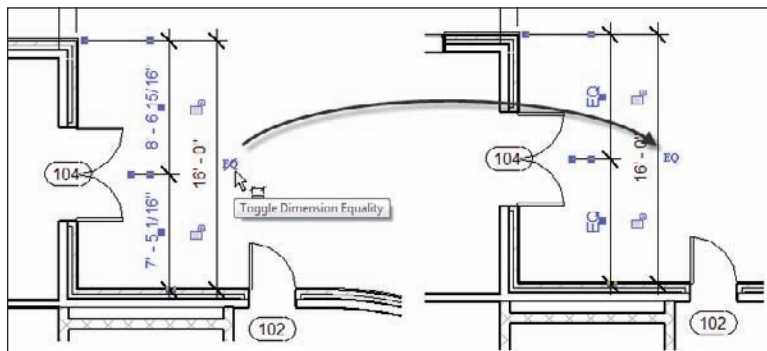

FIGURE 5.8 You can use the dimension string to move the door by clicking the EQ button.
5. Click the blue EQ button, as shown in Figure 5.8. If the door was not exactly centered, this will force the door to move to an equal distance between the two walls.